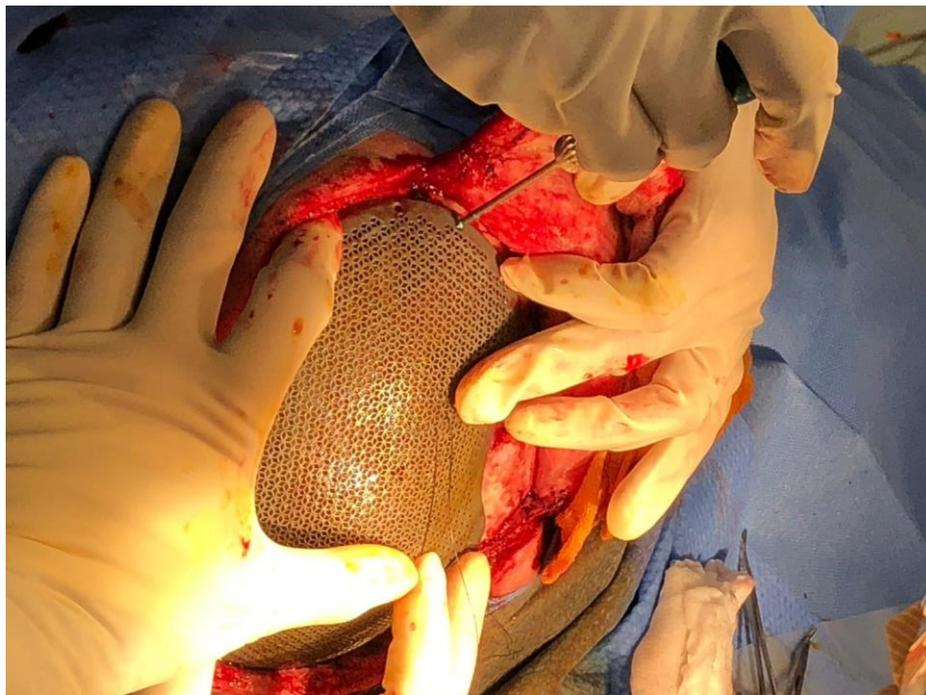

Figure 5: Placing onlay Titanium implant using perpendicular fixation.
- 8) Placing of the onlay implants requires perpendicular fixation, with short screws, after cleaning the defect edge and perpendicular drilling (Figure 5).